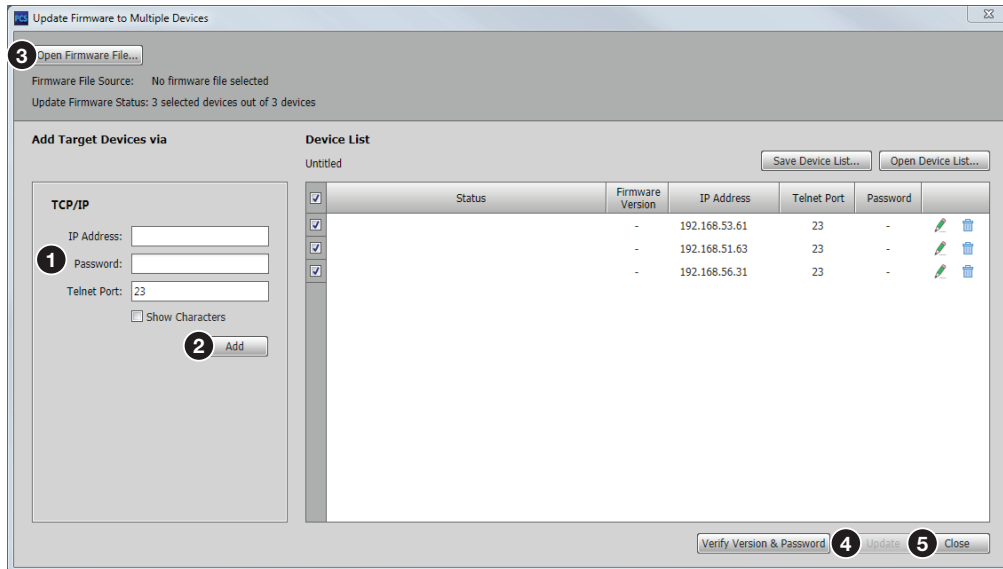

Figure 45. Update Firmware to Multiple Devices Window
2. Select **Update Firmware** and then **Update Firmware To Multiple Devices...** from the device drop-down menu. An Update Firmware To Multiple Devices window opens (see figure 45 on the next page). In this window the target devices can be added.
- a. Enter the **IP address**, **Password**, **Telnet** port details in each field for a desired target device (see figure 45, **1**).
3. Click the **Open Firmware File** button (see figure 45, **3**) on the Update Firmware To Multiple Devices window (upper left). The Update Firmware dialog box opens.